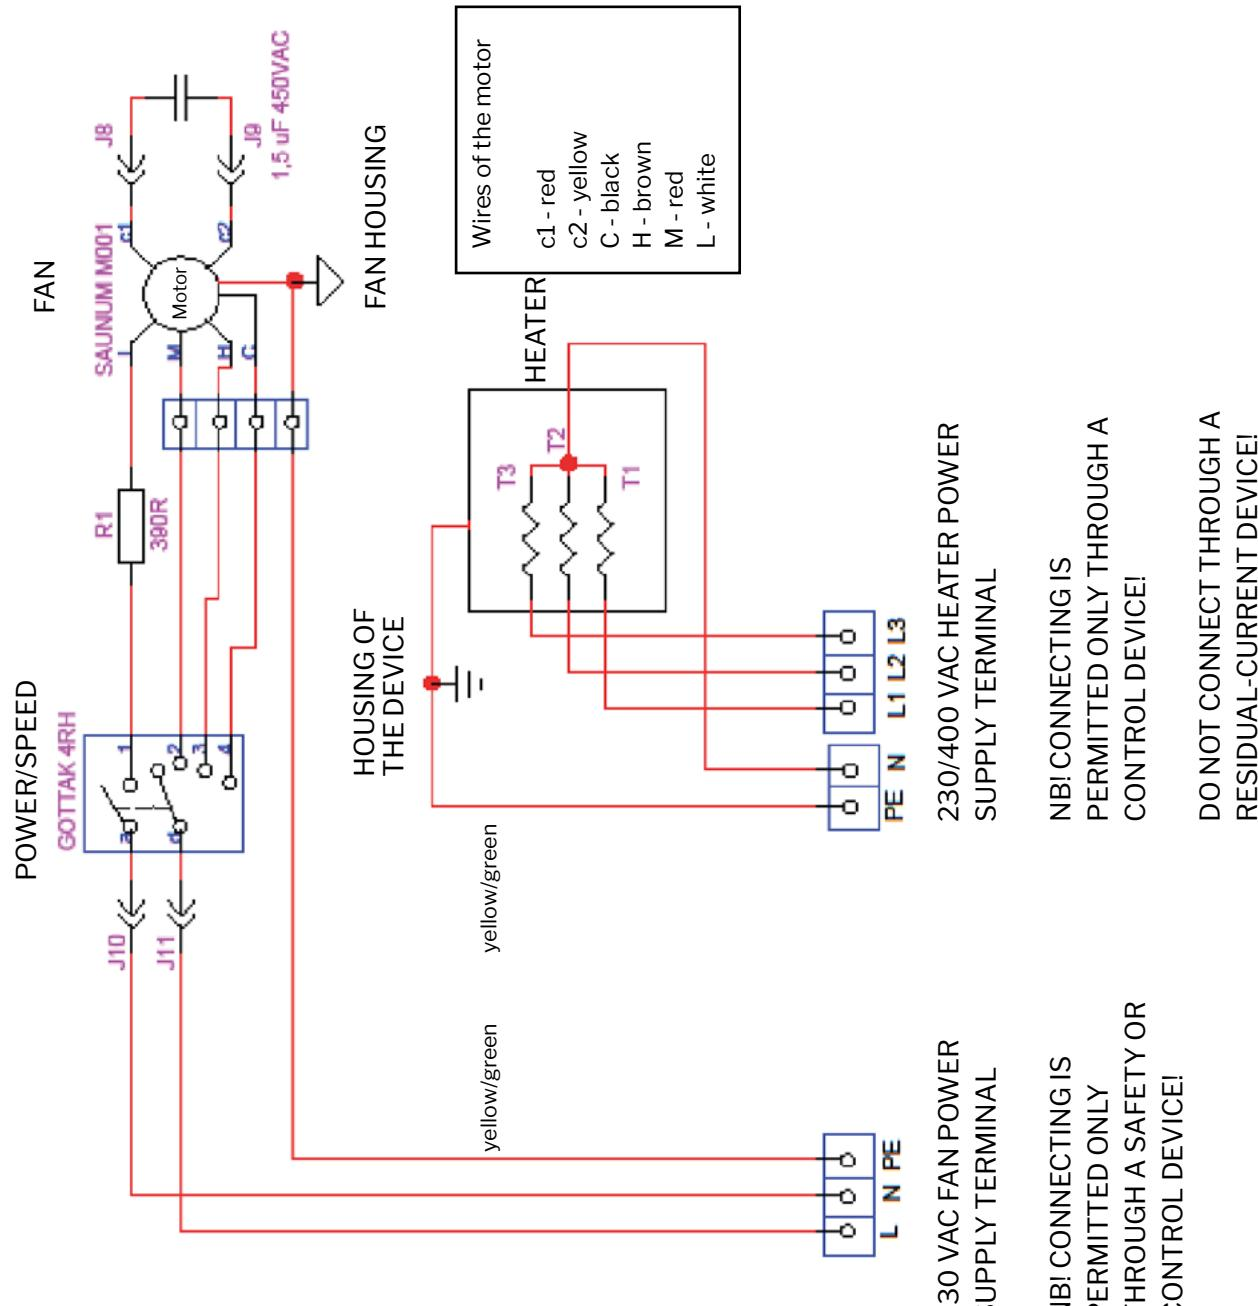

Figure 2: Electrical circuit diagram of the sauna climate device
- The internal connections of the device are made using screw terminals pursuant to figure 2 and table 1 in this manual.
- A protective earth (PE) connection with conductors of at least 2.5 mm2 must be connected to the connection terminal of the device.
- If the device's air circulation fan is to be connected separately from the heater control device, the fan must be connected via a residual-current device. In this case, the PE power fan inlet terminal (PE) earthing must not be combined with the heater power terminal protective earth. Also, in this case, use earthed cables of at least 1.5 mm2 to power the fan.